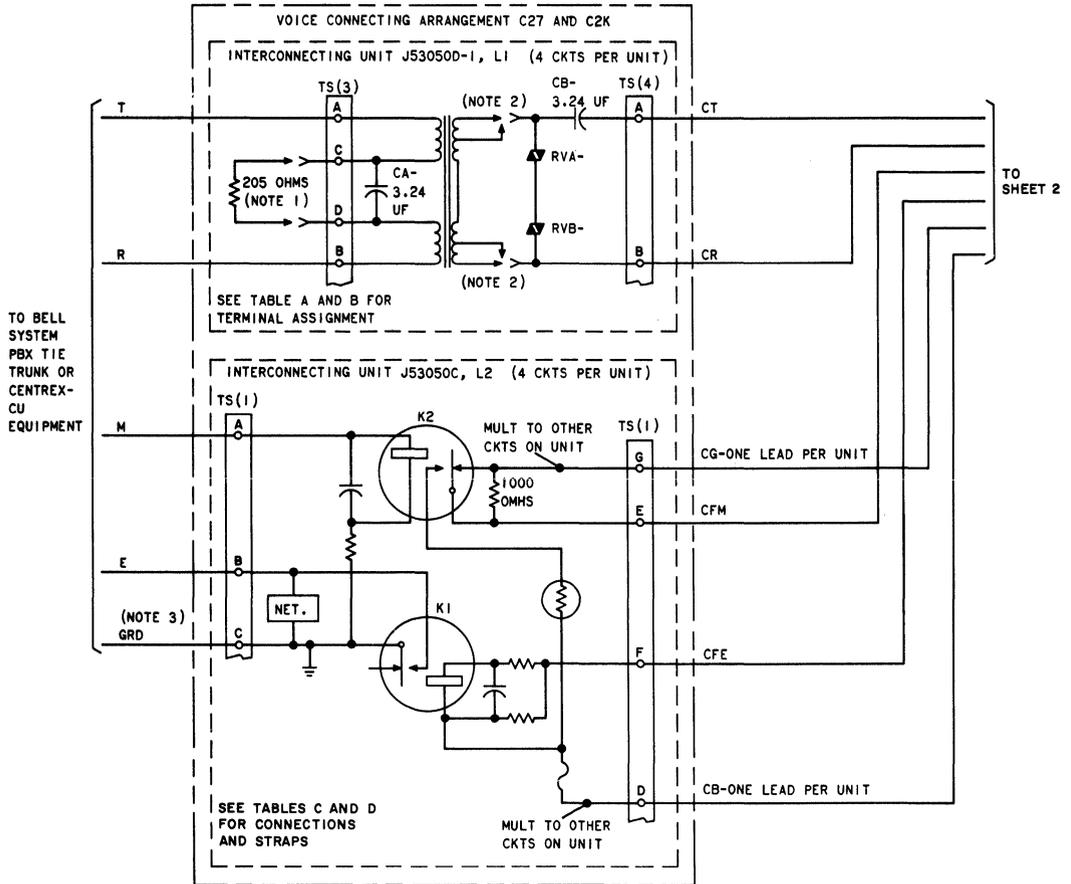

Fig. 4—Connections For Four Circuits—Voice Connecting Arrangements C27 and C2K
4.01 *Incoming Call—Voice Connecting Arrangements C27 (PBX) and C2K (Centrex-CU) Fig. 4*
4.02 *Outgoing Call-Voice Connecting Arrangements C27 (PBX) and C2K (Centrex-CU) Fig. 4*
4.03 *Disconnect—Voice Connecting Arrangements C27 (PBX) and C2K (Centrex-CU) Fig. 4*